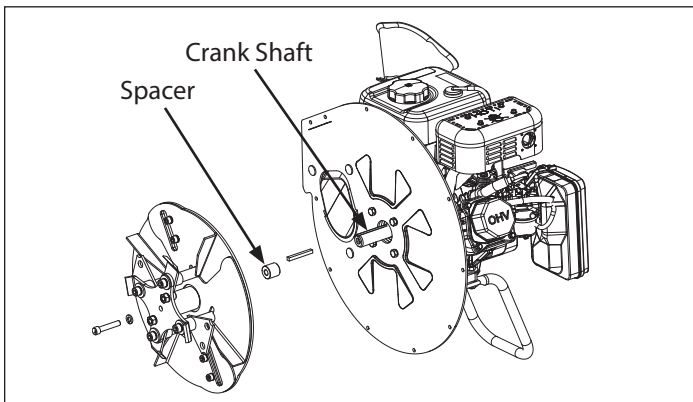

FIGURE 15- Removing the Rotor Housing
The chipping knives may be sharpened at a 30 degree angle until the distance between the edge of the blade bevel and the mounting hole is less than 1/16" (1.6mm). **SEE FIGURE 15.**
4. Remove the rotor by removing the hardware that secures it to the engine crank shaft. **SEE FIGURE 15**